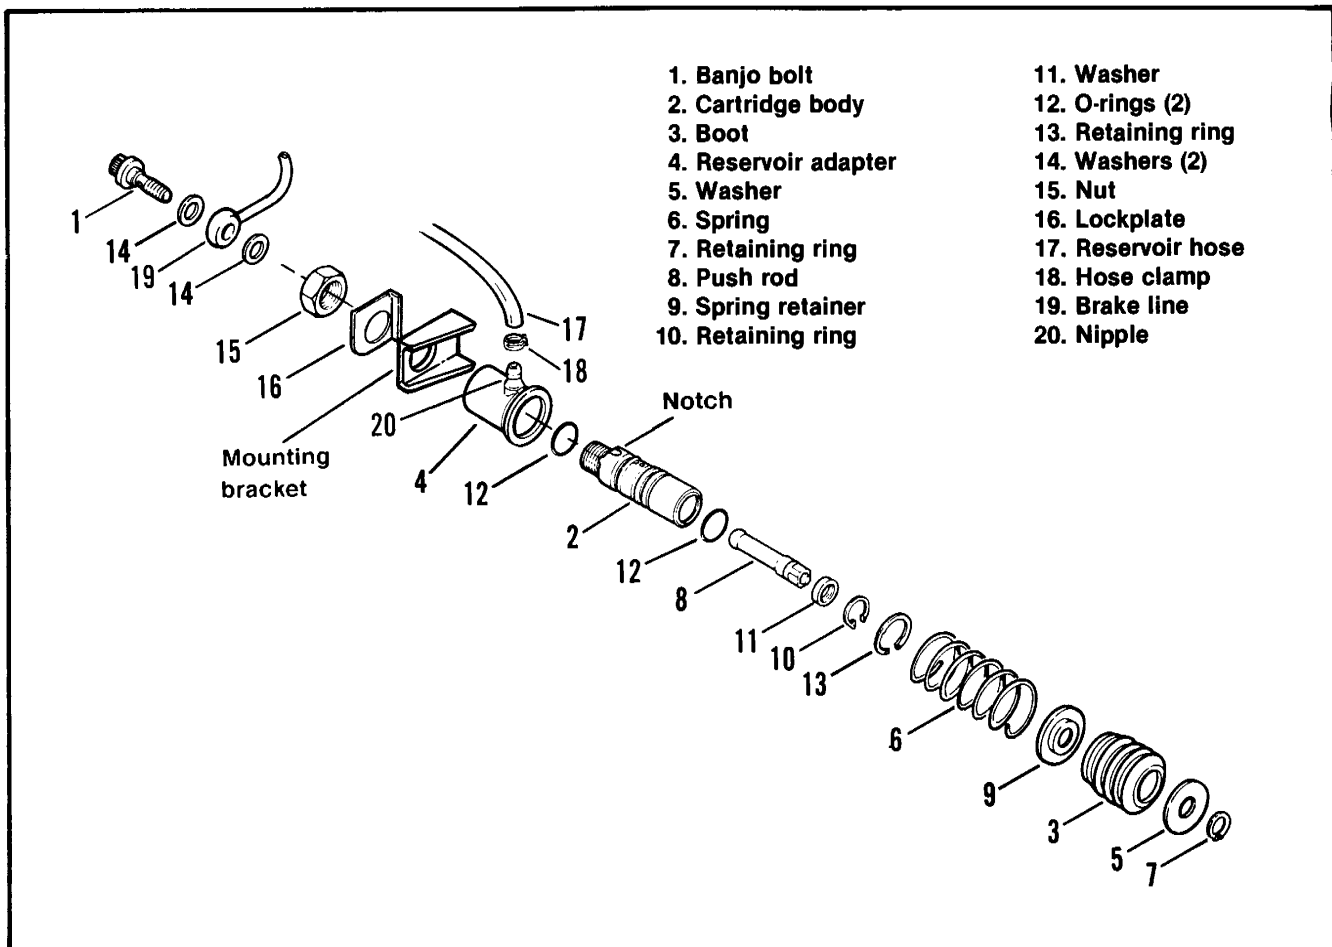

Figure 2-53. Master Cylinder Assembly
2. See Figure 2-53. Thread banjo bolt (1) into the cartridge body (2).
CLEANING, INSPECTION AND REPAIR (Figure 2-53)
ASSEMBLY (Figure 2-53)